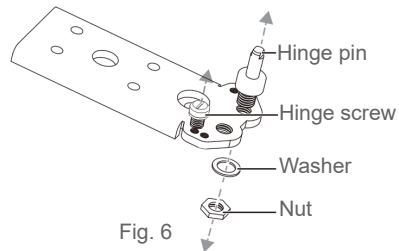

Fig. 6
6. On the lower hinge, remove the hinge screw, and remove the hinge pin after removing its washer and nut (→ Fig. 6).